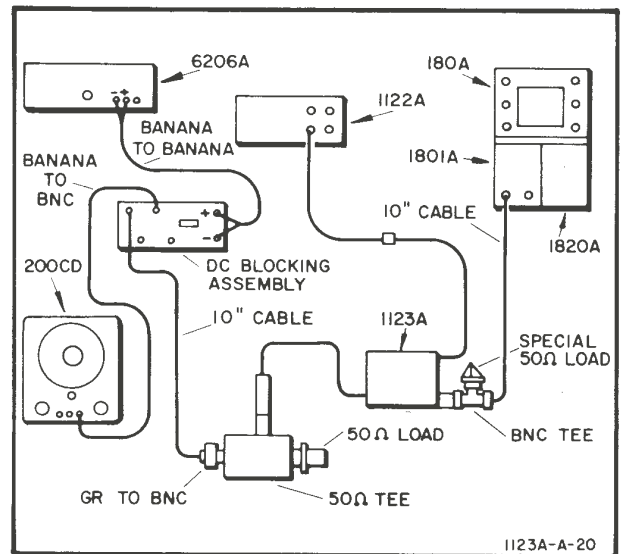

Figure 5-3. Compression Test Set-up
- a. Connect the equipment as shown in Figure 5-3.